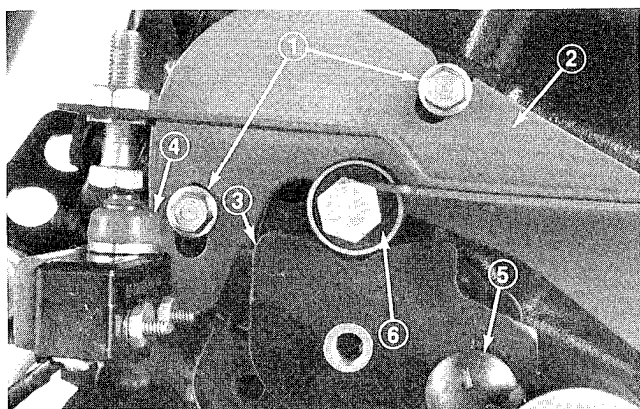

Figure 71
4. With engine OFF, loosen nut on carriage bolt and allow bearing to locate cam (Fig. 71). Carefully tighten nut on carriage bolt.